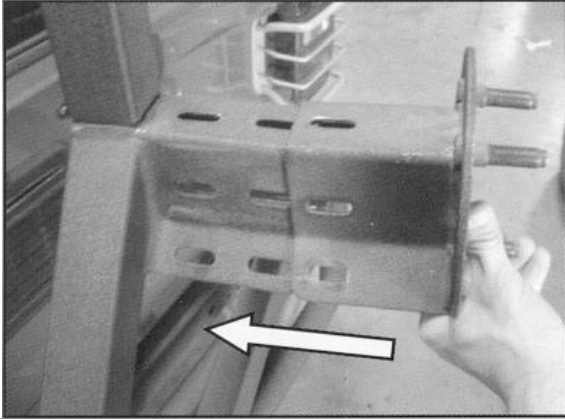

Figure 5
10. Locate tire mounting bracket, (3) 3/8 x 1" Hex Head Bolts, (6) 3/8" Flat Washers, (3) Lock Nuts. Slide the tire mounting bracket over support bracket on carrier. Lineup the 3 slotted holes and install with the 3/8" hardware. (Figure 5,6) **Note:** There are two sets of slotted holes. This is to accommodate oversize tires. Determine the best position for your tire size and then tighten all hardware on mounting bracket. For best results the back side of the tire should rest against the (Triangle) tire carrier.